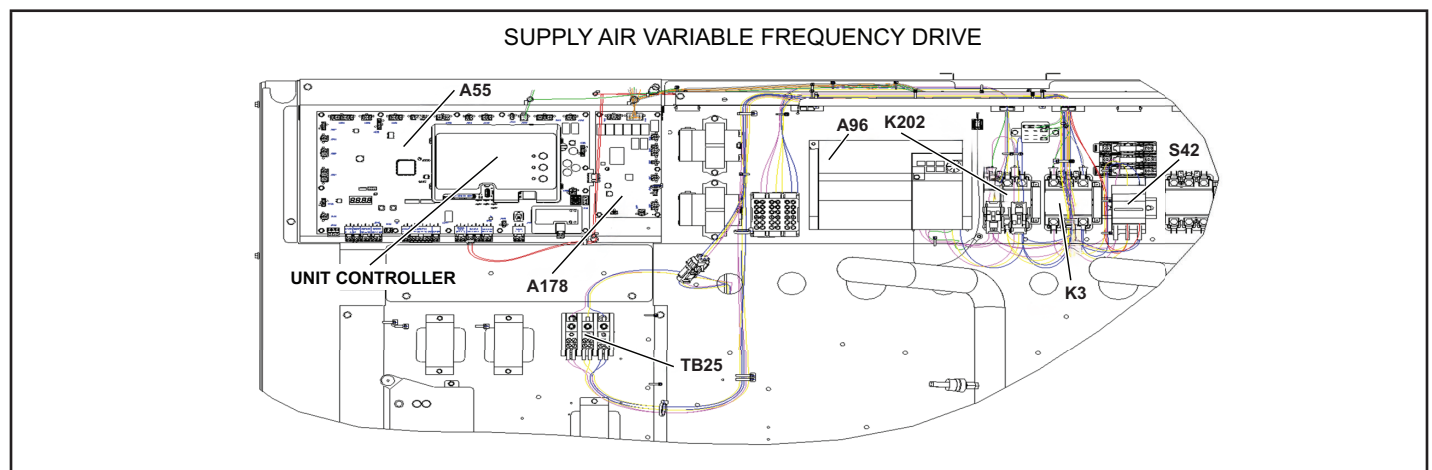

FIGURE 26
- 2- Locate K3, K203, J248 and J249 connectors near the VFD. See FIGURE 26.
- 5 - Locate VFD control relay K203 on the lower control panel. See FIGURE 26.